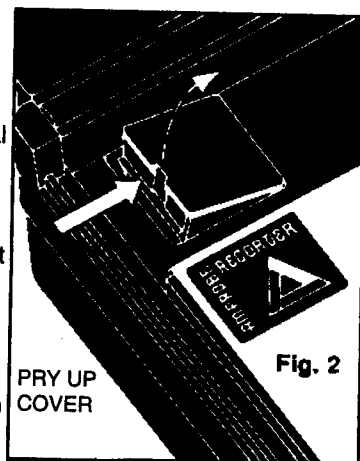

Fig. 2
3. Insert small screwdriver into slot area indicated by arrow and pry battery cover up. Remove old batteries (Fig. 2)